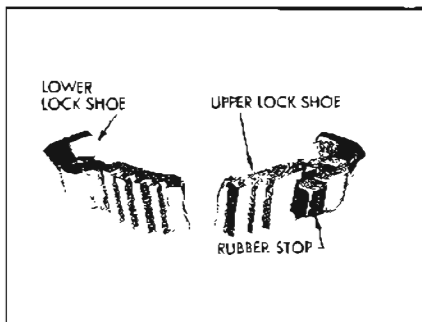

Figure 8-88—Lock Shoes
1. Drive lock shoe pins out of actuator and remove shoes and springs. The upper shoe has a rubber stop on it. See Figure 8-88.